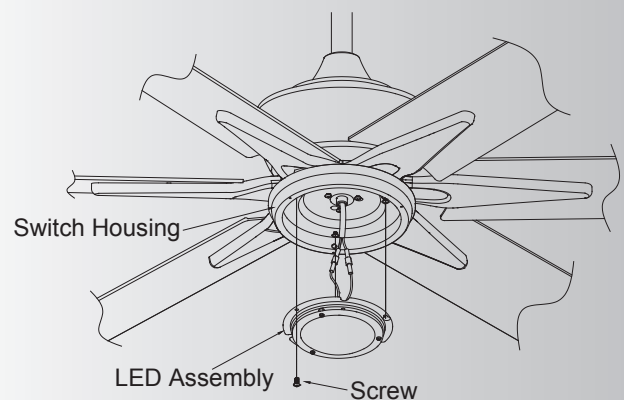

Fig. 21
Step 2. Connect the 2 single pin connectors from the LED assembly to the 2 single pin connectors from motor assembly, BLACK to BLACK, WHITE to WHITE. Assemble the LED assembly to the switch housing using the two key slots. Replace the removed screw and secure all three screws. (Fig. 21)